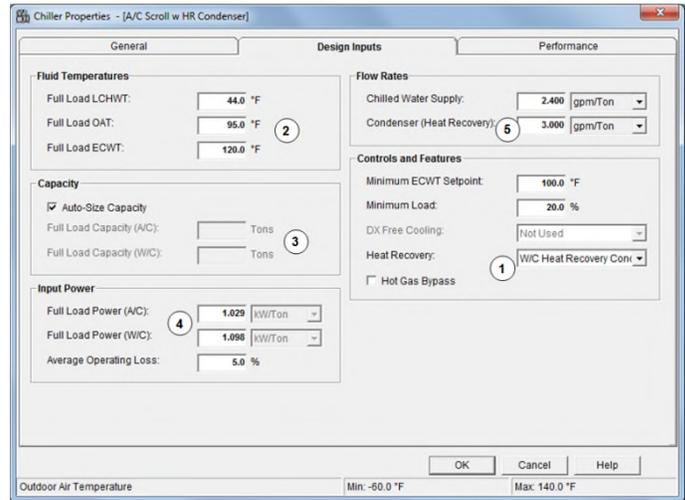

Figure 5.
- On the Design Inputs tab (Figure 5) select the “W/C Heat Recovery Condenser” option (see 1 in figure). When “W/C Heat Recovery Condenser” is selected additional inputs will appear on this tab.